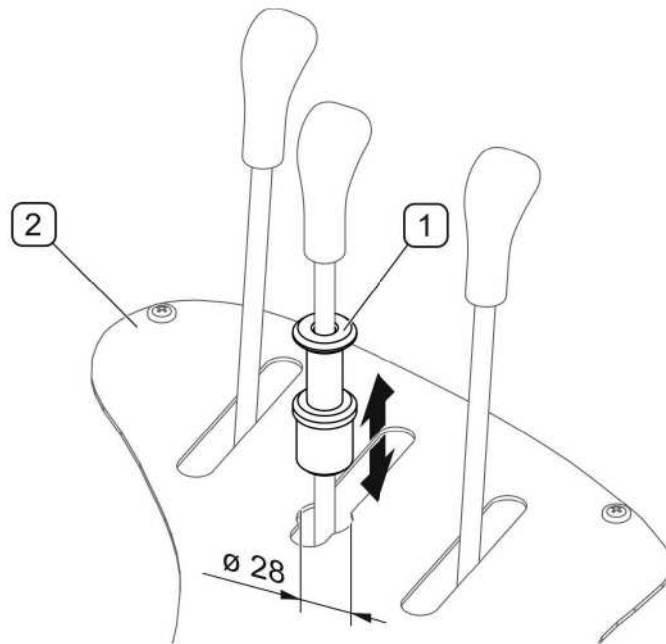

FIG. 4.14A **Modification of external hydraulic control lever (5112/5122)**
(1)- snap sleeve 146N-01000001; (2)- lever guide
In tractors in which external hydraulic control lever does not have a snap fastener in "on" position, apply a sleeve (1) (FIG. 4.14A), which is set on the appropriate control lever. Lever guide should be modified (2) by making an opening of diameter 28 mm, after previously determining the "on" position required by lever. When working with loader the lever is blocked in "on" position leaving sleeve (1) in opening in guide. To disconnect control lever raise sleeve (1) upwards and move lever forwards in neutral position - "off".